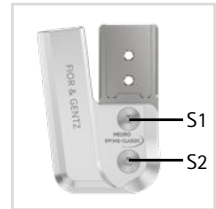

fig. 14
- 5 Screw in the second countersunk flat head screw (axle screw, S2; fig. 14).
- 1 Loosen the screws for the cover plate (fig. 14) after checking the system joint's free movement and remove them from the cover plate.
- 3 Secure the screws for the cover plate (fig. 14) with the torque corresponding to the system width.